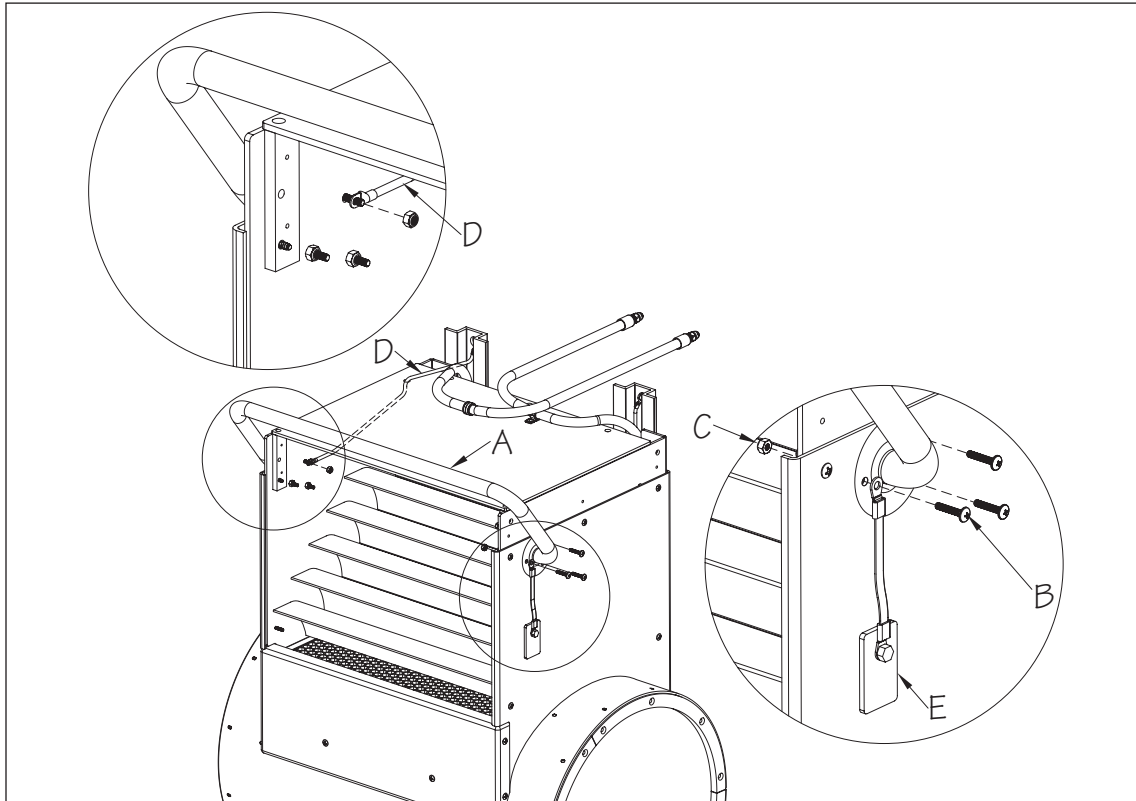

Fig. 4
2. Position the Grab Bar (A) on the Current Unit, aligning the holes in the flanges with the corresponding holes on each side of the unit. Machine screws (B) and Nuts (C) are used to secure the Grab Bar. On the left side, there is a pre-attached #8 Solid Copper Bonding Wire (D). Attach the wire to one of the screws before installing the nut (Fig. 4).
If the Fastlane® Swim is being installed into a pool using a salt-chlorine generator, the Sacrificial Anode **MUST** be installed to combat the corrosive nature of the salt. Secure the lanyard of the anode to one of the screws on the right side of the unit. **THE ANODE SHOULD ONLY BE USED IN SALT POOLS** (Fig. 4).